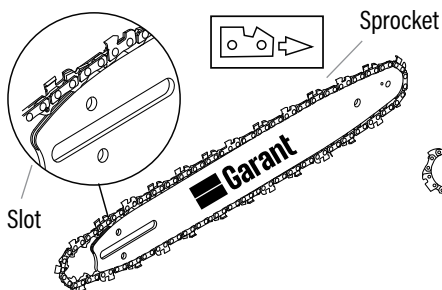

Fig. 8A
1. Place a new chain in the slot of the guide bar, making sure the saw teeth are facing the correct direction by matching the arrow on the guide bar (Fig. 8A).